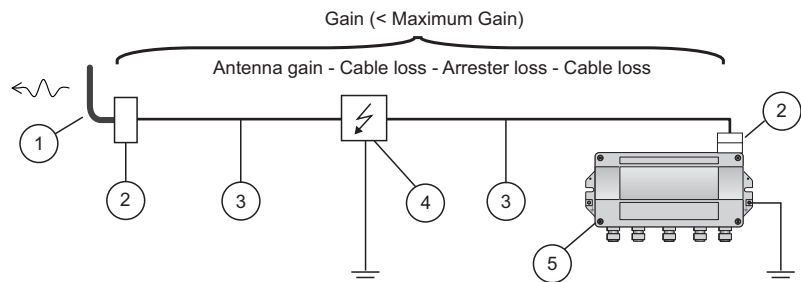

Fig. 4-5: Calculating the maximum gain of a remote antenna
- 2 Unscrew the 4 screws of the housing cover (see Fig. 4-5 in Chapter 4.2) and remove the housing cover.
- 2 If applicable, unscrew the four screws of the housing cover (see Fig. 4-5 in Chapter 4.2) and remove the housing cover.